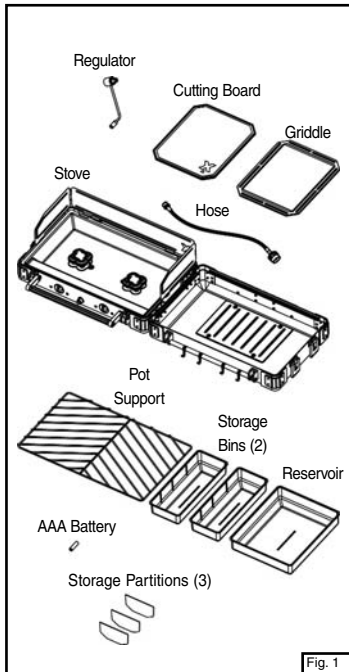

Fig. 1
■ Remove components from carton (Fig. 1).